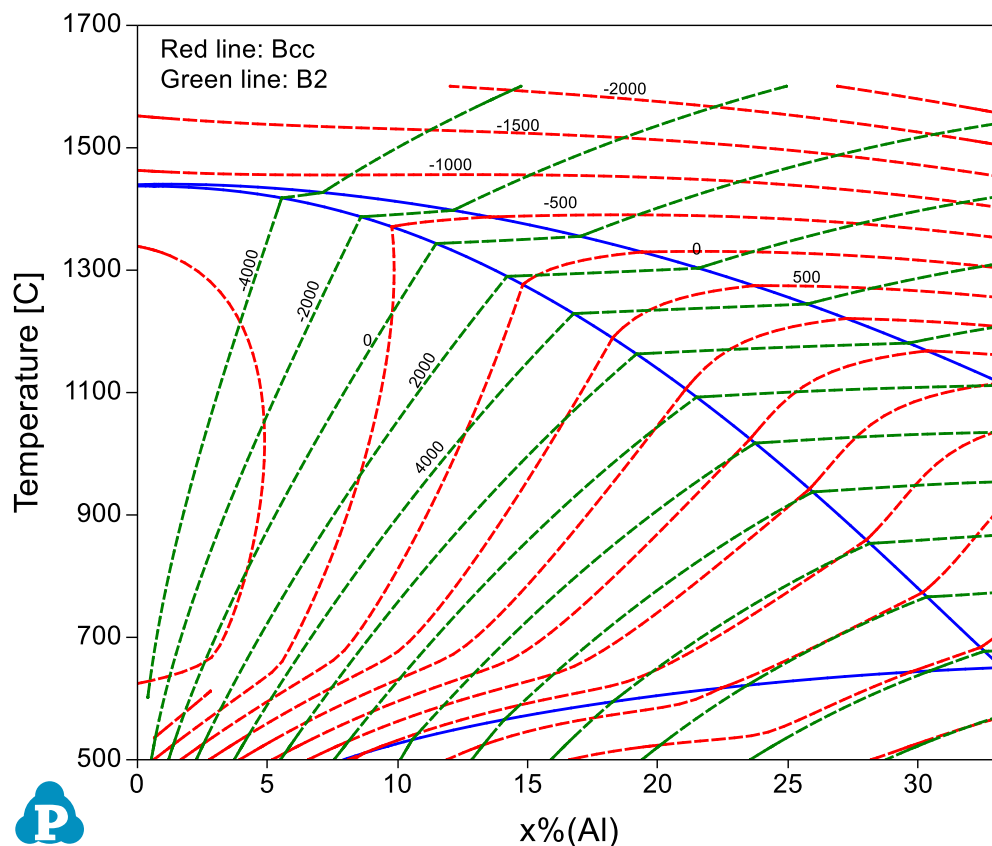

Figure 1.20.6: Driving force contour diagram for both Bcc and B2 phases
- The merged diagram is shown in Figure 1.20.6. From this figure it is seen that at low Al composition, neither B2 or Bcc has the driving force to form (negative driving force); with high Al composition, both phases have the driving force to form, and B2 has higher driving force than that of the Bcc phase;